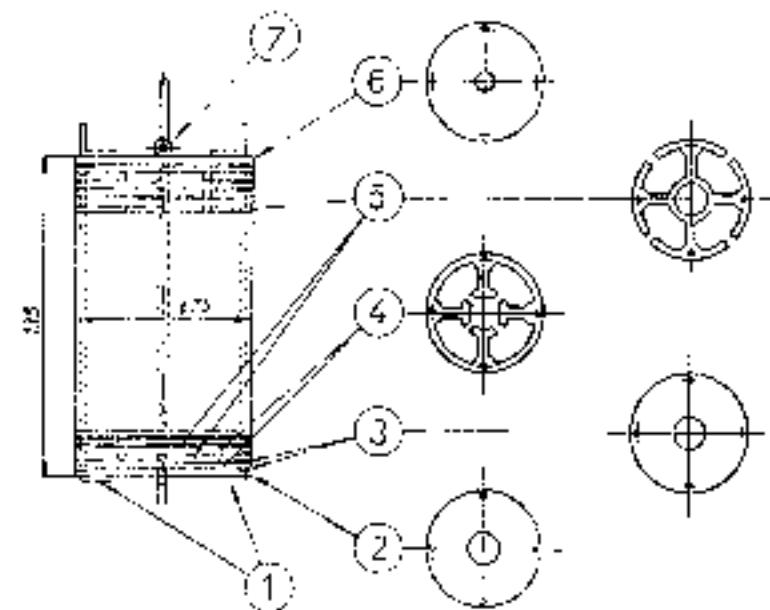

Fig. 3b
12. To install the filter element use a hand vice (made according to Fig. 3b).